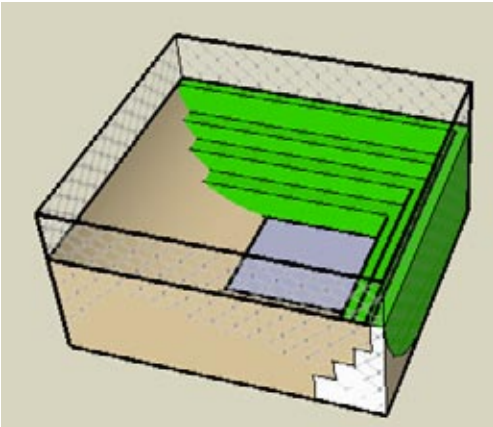

Figure 4-58
12. Move the steps back down inside the fence (Figure 4-58).